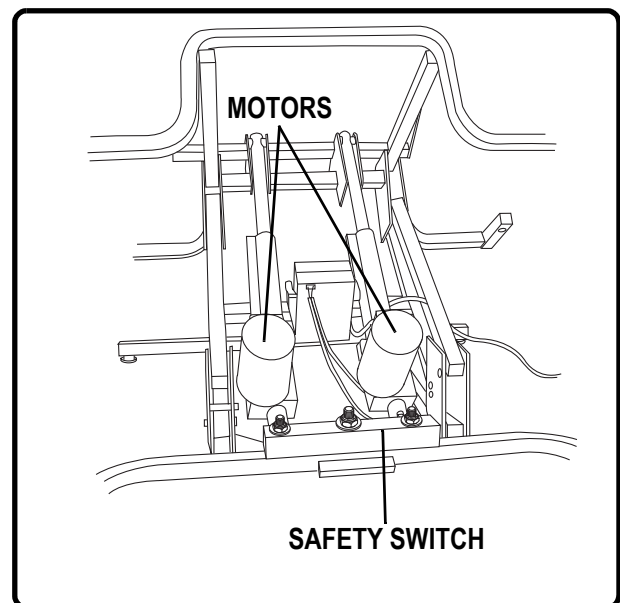

Figure 6.3 In-sync Motors (Timing Corrected)
3. Press the hand control in the UP position until your chair reaches the full lift position. This will reset the motor position and correct the timing (Fig. 6.3).